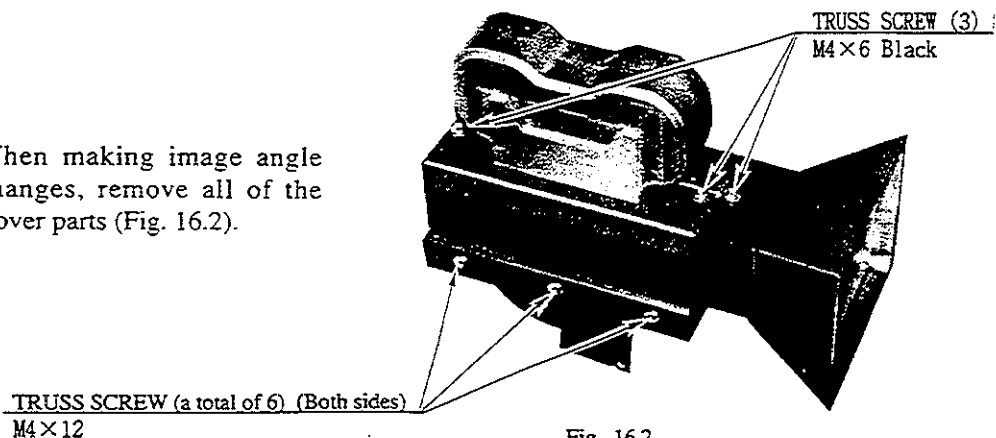

Fig. 16.2
④ When making image angle changes, remove all of the Cover parts (Fig. 16.2).